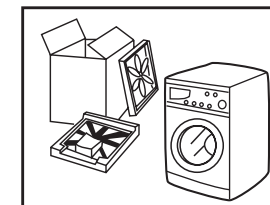
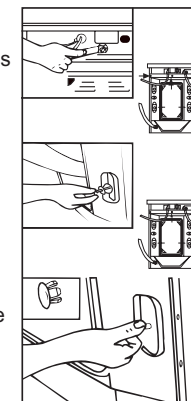

Fig. 1
Fig.2
- Remove all the packing materials (including the foam base) to prevent vibration during use, as shown in Fig.1. Upon opening of the package, water drops may be seen on the plastic bag and the porthole. This is normal phenomenon resulting from water test in the factory.
- Dismantle the packing bolts as shown in Fig. 2.
<p>3. Clean the detergent compartment regularly. For the detergent compartment similar to figure (a), raise the compartment slightly to remove and replace after cleaning.</p>  <p>Fig.(a)</p>	<p>4. Clean the filter Cleaning methods (once a month)</p> <ol style="list-style-type: none"> 1) Push out the outer cover (Fig. 1); 2) Screw out filter by turning counterclockwise (Fig. 2); 3) Flash clean with running water; 4) Replace the filter by turning clockwise and remount the cover. <p>Caution: The filter must be in place, or it may lead to leakage.</p>    <p>Fig1 Fig2 Fig3</p>